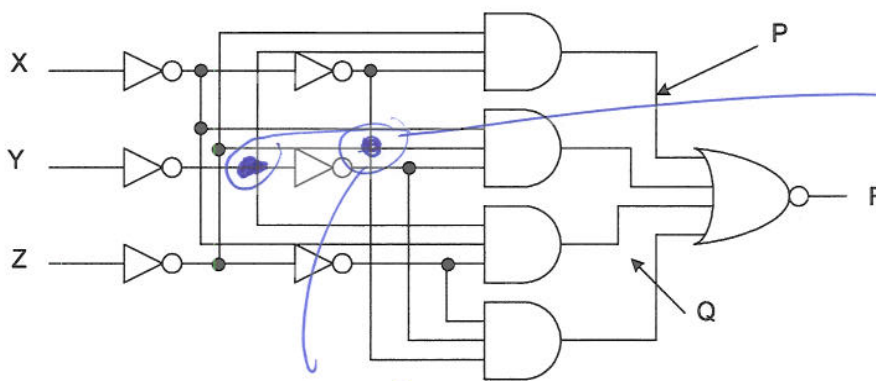

Figure 6.2
- c) For the circuit shown in *Figure 6.2*, find test vectors that can locate stuck-at faults at nodes P and Q.